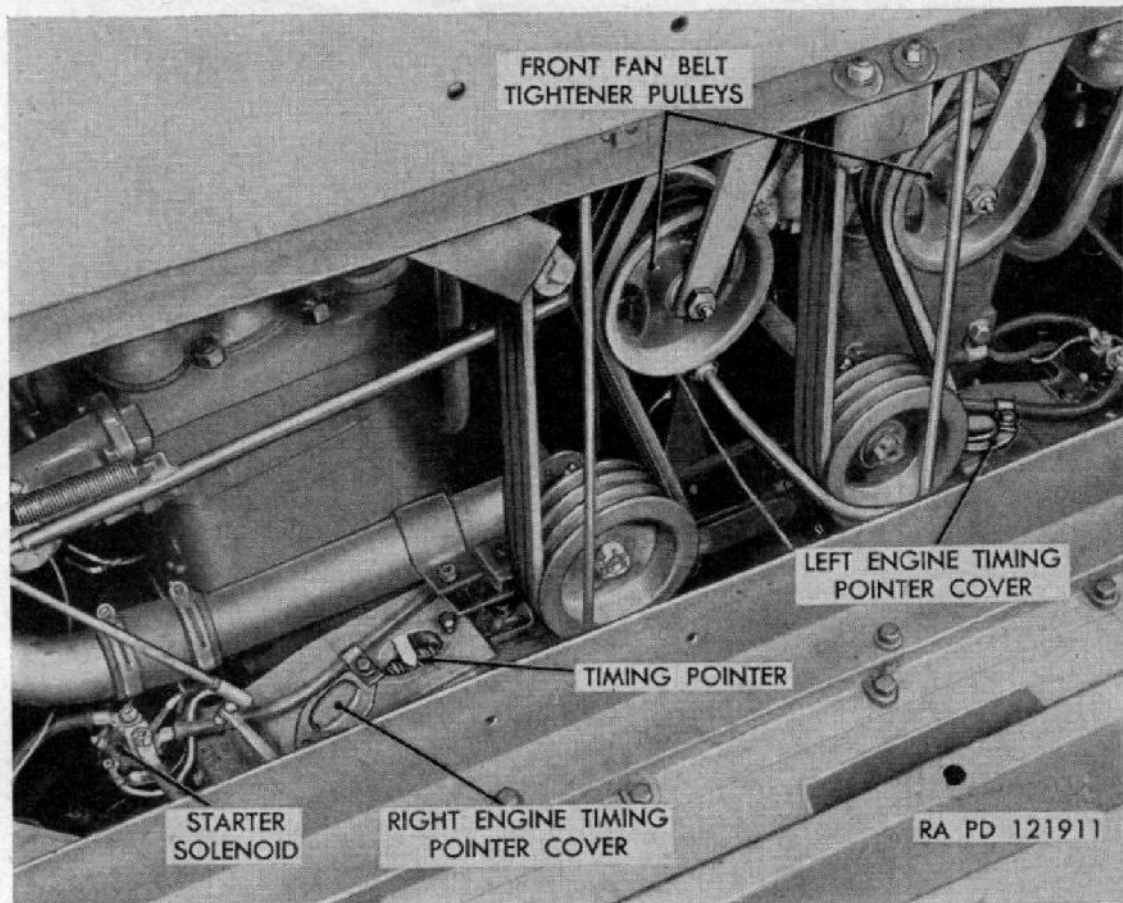

Figure 63. Engine timing pointer and fan drive belts.
cient engine operation. If ignition takes place earlier when using 70 octane gasoline, detonation, heating, and burning of pistons will result. Late timing will result in lack of power and speed and overheating of the engines. A pointer in top of flywheel housing of each engine (fig. 63) and marks on the outer rim of flywheel are provided for ignition timing purposes. One mark "DIS" is at a point on the flywheel 3° before top dead center, which is the point at which the distributor breaker points should start to open. The automatic advance mechanism in the distributor will cause a nominal advance of 22° ; however, the distributors have a manufacturing tolerance of
b. Timing Procedure (Engines Not Running). Remove seat backs in rear crew compartment and open engine compartment doors. Remove timing pointer cover from top of flywheel housing at front of engine (fig. 63). Rotate engine crankshaft with starter until No. 1 piston is near top of its compression stroke and "DIS" mark on flywheel is directly under pointer in top of flywheel housing. Both valves of No. 1 cylinder will be closed and the exhaust valve of No. 6 cylinder will be nearly closed at this time. Remove distributor cap.
a. Removal (fig. 63). Remove seat back cushion from rear crew compartment. Remove two nuts and wires from coil winding terminals. Remove nut and cable from solenoid terminals. Tape end of each wire as it is removed. Remove two solenoid mounting cap screws and remove solenoid.